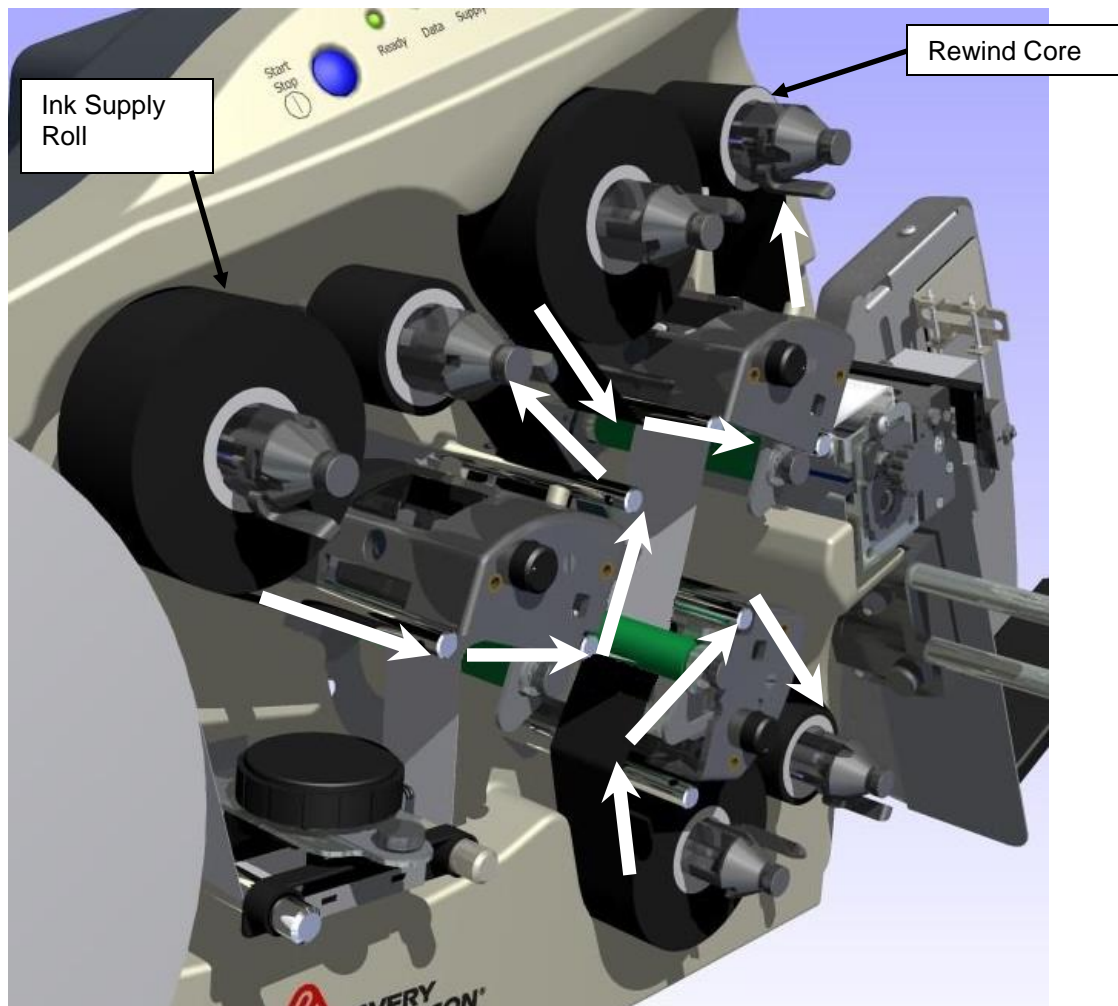

Figure 8: Upper and Lower Ink Supply and Print Stations – Loaded (Gen 2 shown)
3. Open the print roller (See Figure 8).
Installing ink on the Bottom Print Station is done in the same way as the Top Print Station(s), except that the ink runs up over the turn bar, across the print head to the rewind arbor. See Figure 8.